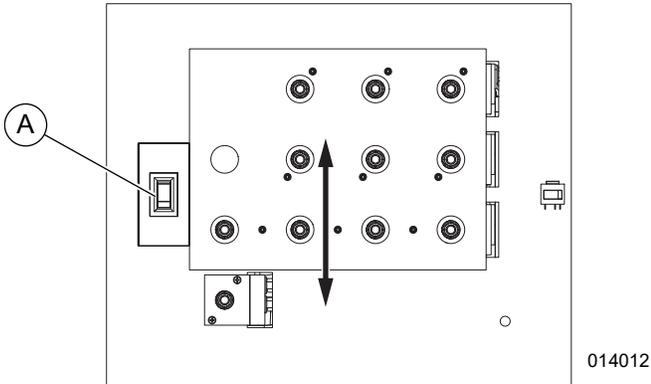

Figure 3-2. Link Board
- See Figure 3-2 and Table 3-2. Verify toggle switch (A) is in correct position for the desired voltage.